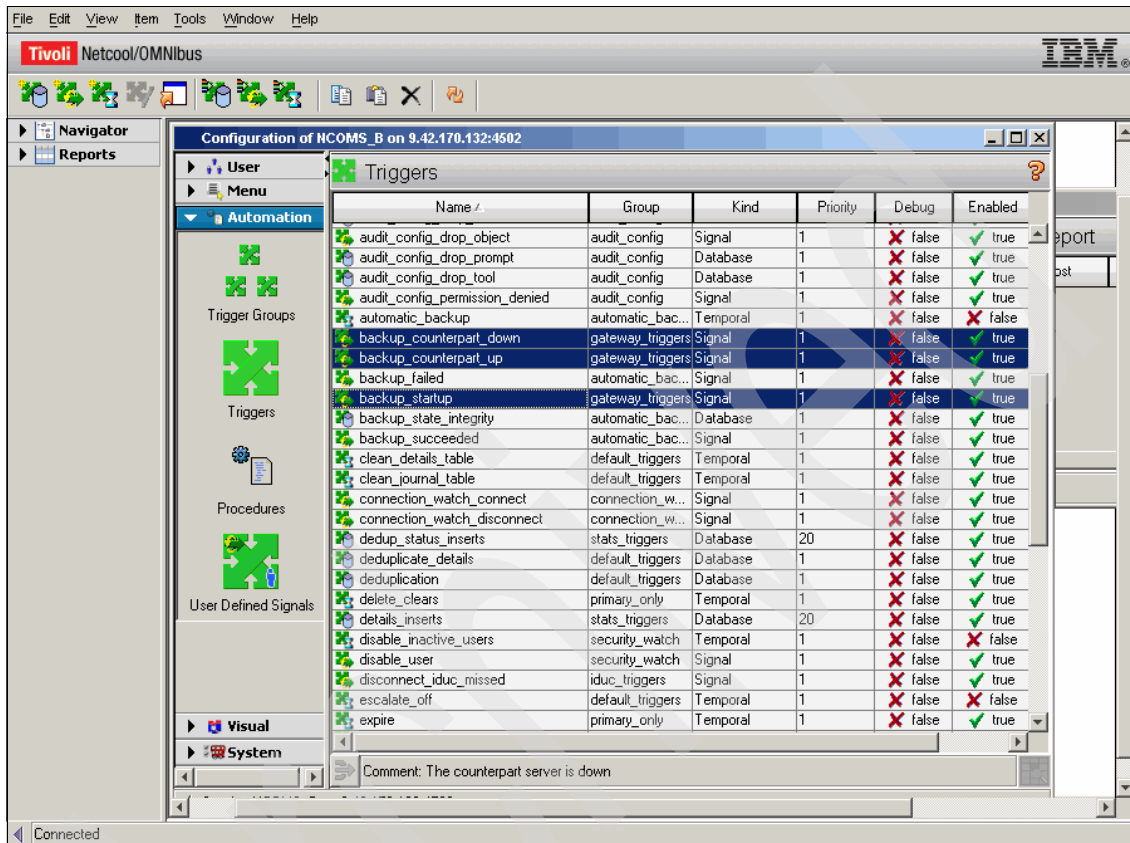

Figure 4-50 Backup trigger enabled
- On the backup ObjectServer, enable the backup_startup, backup_counterpart_down, and backup_counterpart_up triggers for automation failover and failback, as shown in Figure 4-50.